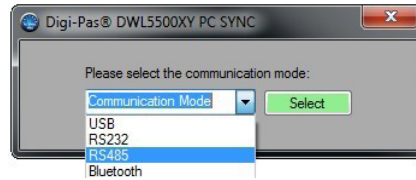

Figure 27. Select mode from the drop down menu
1. Assuming steps stated in 3.2 Configuration of Sensor Module(s) with Control Box and 4.1 Installation of the DWL5x000XY PC Sync Software have been done in this stage. Open PC SYNC software and select the desired mode from the drop down menu as shown in Figure 27. In this example, RS485 is selected.